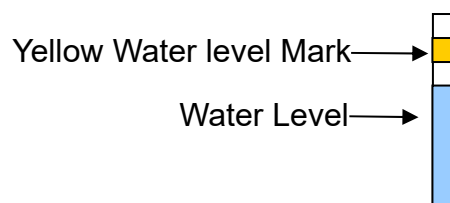
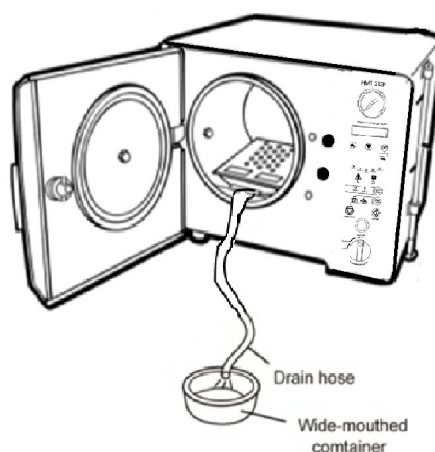

Figure 3
Figure 10
**Caution:** Please fill Distilled Water Only into the unit. Take care not to overfill the yellow water level mark as Figure 3 and Figure 10.
- L. Please drain off water from the chamber by piping as Figure 10 after cool off the cycle finish.